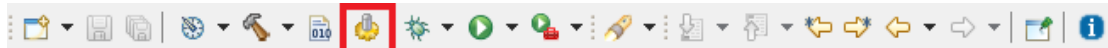

Figure 33: STM32CubeIDE menu icons - Code Generation
- Before building the project the first time some hardware specific code has to be generated. Open the STM32CubeMX configuration window with a double-click on the \*.ioc file in STM32CubeIDE's project explorer. Then the code can be generated with **Project** → **Generate Code** or by clicking on the *Code Generation* icon as seen in Figure 33.